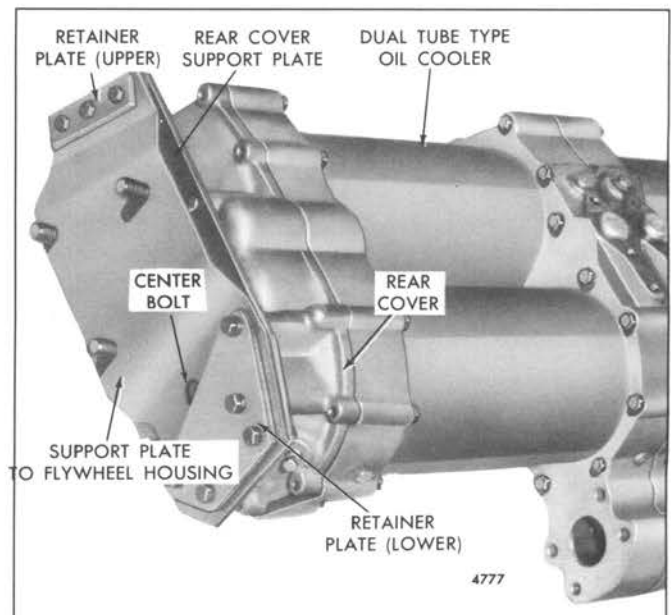

Fig. 16 - Dual Tube Type Oil Cooler
9. On a dual tube type oil cooler (Fig. 16), assemble the two rear cooler cover support plates, the upper retainer plate and the necessary .062" shims with three 3/8"-16 x 1-5/8" bolts. Then assemble the lower retainer plate and necessary .062" shims using a new gasket between the oil cooler cover and support plate with five 3/8"-16